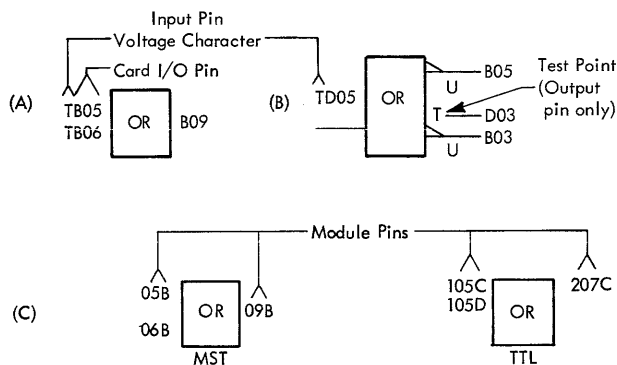

Figure 5-23. Card I/O Pins and Module Pins
Associated with an input or output of a logic block is a 3-character pin field that identifies a card I/O pin (Figure 5-23). An *input* can be prefixed by an additional alphabetic character (T in example A) that specifies the minimum up level and minimum down level of a circuit. Figure 5-24 shows the voltage codes and ranges available on an FEALD (MST).
Note that the letter T at the output of a logic block identifies a test point (Example B in Figure 5-23).
Card coordinates were described in Chapter 4 (Figure 4-5). These coordinates, along with an FE template, locate module pins for scoping. Module pins are identified as in example C of Figure 5-23. Note that .09B is a module pin, whereas B09 represents a card I/O pin, at the input or output of a logic block on an FEALD (MST).
- Example B T A test point. Do not confuse this with T as an input voltage character. See output pin D03 in example B, Figure 5-23.